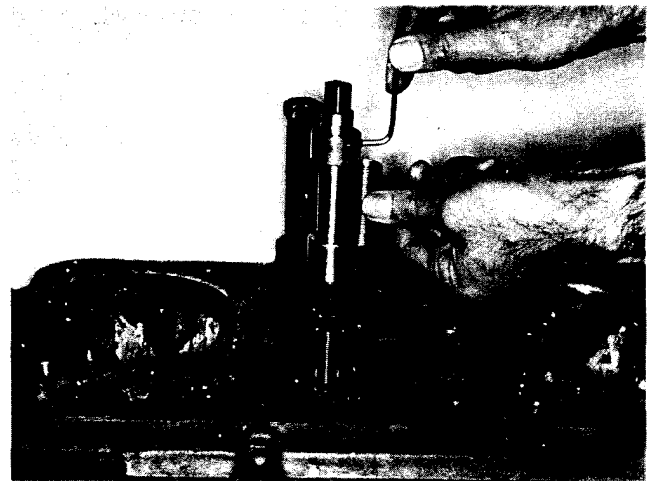

Fig. 1-27, (N101124). Adjusting stop collar
7. Remove reamer. Install special tap in pilot bushing. Tap will sit on top of block. Fig. 1-27. Place thread insert between pilot bar and stop collar on tap. Adjust stop collar to rest on top of insert and secure collar.